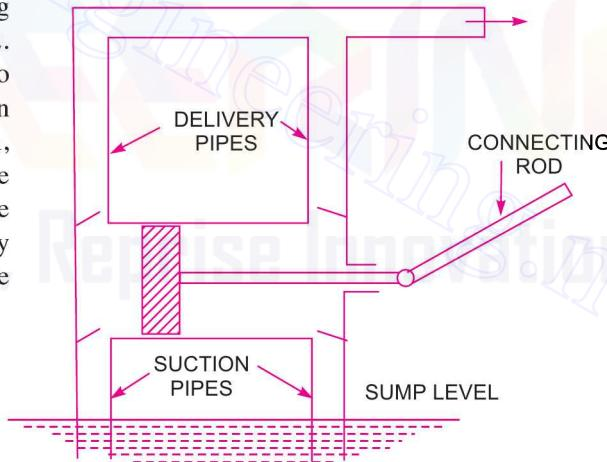

Fig. 20.2
**20.3.3 Discharge, Work done and Power Required to Drive a Double-acting Pump.** In case of double-acting pump, the water is acting on both sides of the piston as shown in Fig. 20.2. Thus, we require two suction pipes and two delivery pipes for double-acting pump. When there is a suction stroke on one side of the piston, there is at the same time a delivery stroke on the other side of the piston. Thus for one complete revolution of the crank there are two delivery strokes and water is delivered to the pipes by the pump during these two delivery strokes.